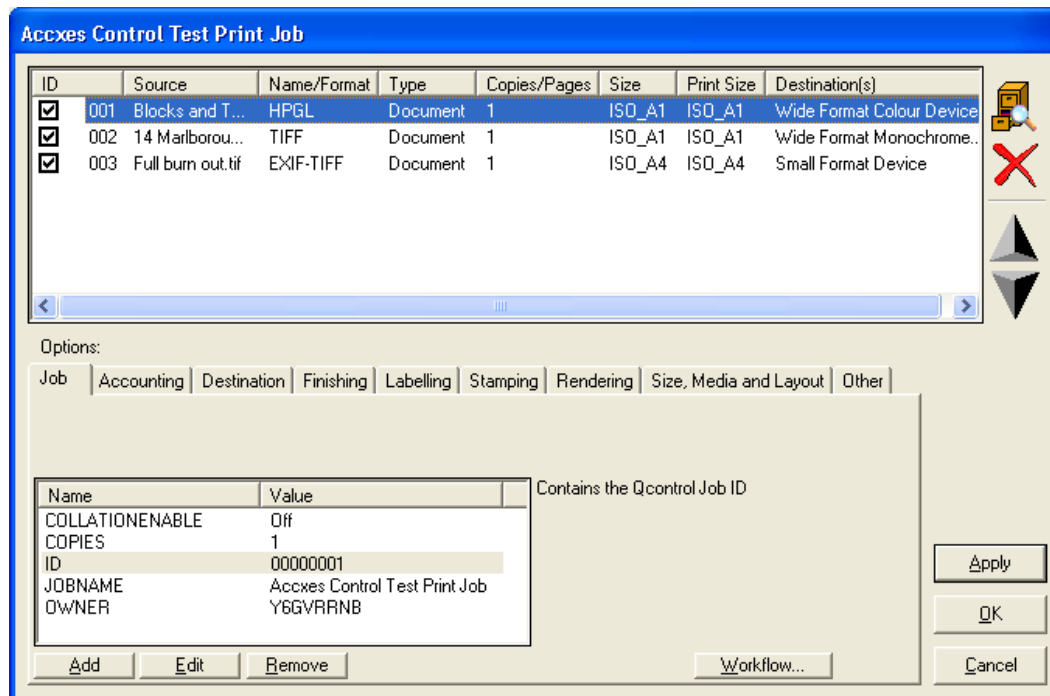

Fig 2.7
- The Job Editor opens as shown in figure 2.7